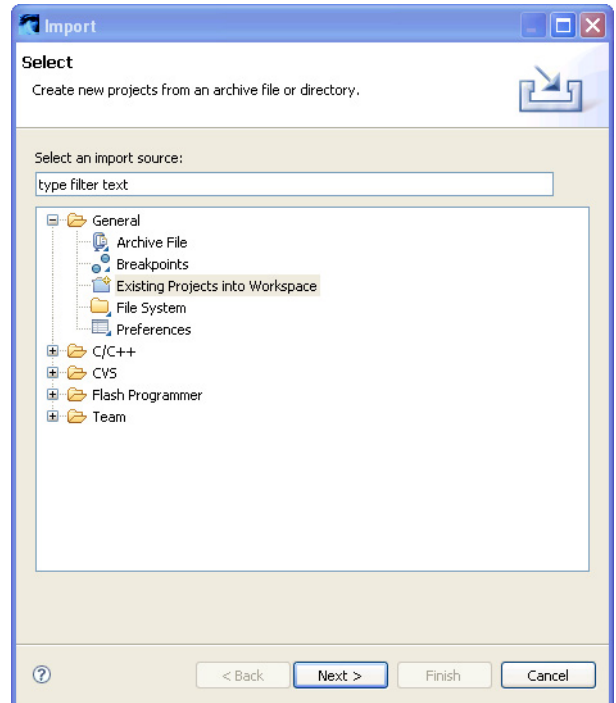

Figure 2-3 The Import Dialog
1. Select **File** → **Import...** This opens an **Import** dialog like the one pictured in Figure 2-3.